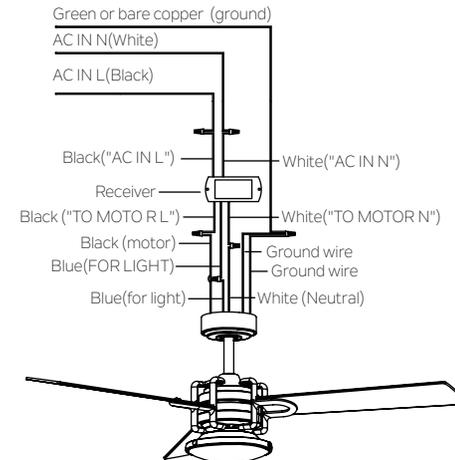

Fig. 14
Step 2. Motor to Receiver Electrical Connections: Connect the BLACK wire from the fan to BLACK wire marked "TO MOTOR L" from the receiver. Connect the WHITE wire from the fan to the WHITE wire marked "TO MOTOR N" from the receiver. Connect the BLUE wire from the fan to the BLUE wire marked "FOR LIGHT" from the receiver. Secure all the wire connections with the plastic wire connectors provided. (Fig. 14)
Step 3. Remote Receiver to Outlet Box Electrical Connections: Connect the BLACK (hot) wire from the ceiling to the BLACK wire marked "AC IN L" from the receiver. Connect the WHITE (Neutral) wire from the ceiling to the WHITE wire marked "AC IN N" from the receiver. Secure all the wire connections with the plastic wire connectors provided. (Fig. 14)